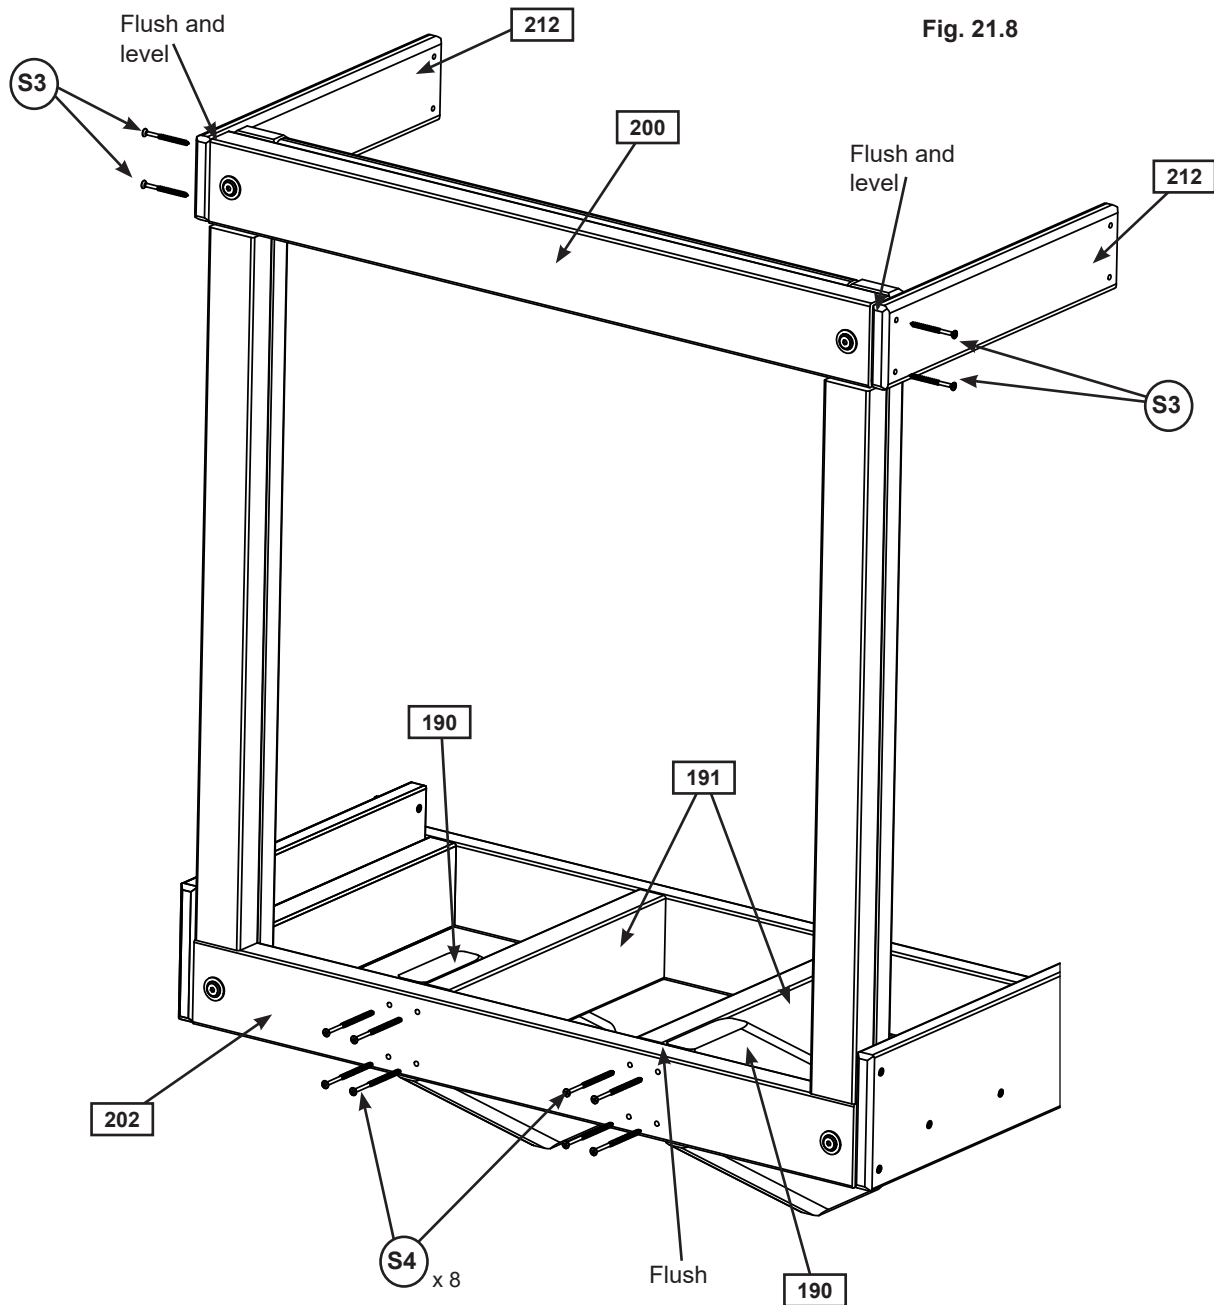

Fig. 21.8
F: Attach (202) Crowsnest Front to each (190) Crowsnest Gusset and each (191) Crowsnet Joist with 8 (S4) #8 x 3" Wood Screws. (fig. 21.8)
G: Place 1 (212) Crowsnest Side flush to the top and front of (200) Crowsnest Top make sure each board is level then attach with 2 (S3) #8 x 2-1/2" Wood Screws per board. (fig. 21.8)